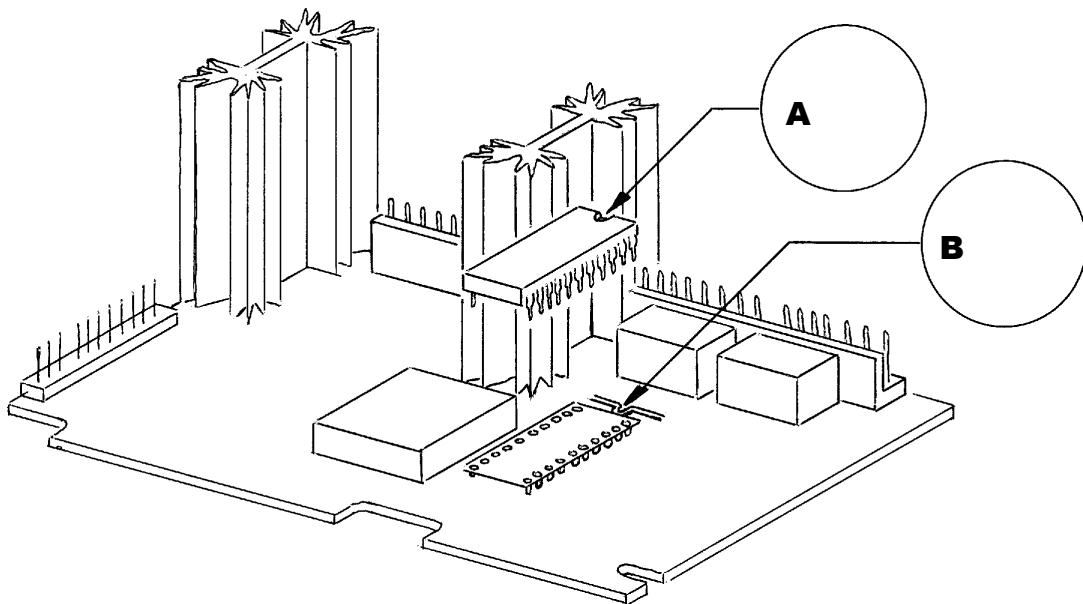

FIGURE 5
2. Locate the small notch at one end of the EPROM in Figure 5, A. Make sure it is lined up with the notch of the socket outline at U1 on the circuit board, as shown in Figure 5, B. Also make sure that all the pins are started into the socket. Then press the EPROM firmly into the socket.
3. Inspect all 28 pins to be sure they are seated properly. Note that a pin can become bent under the EPROM and may appear as though it is correctly installed in the socket. If all the pins were not properly seated in the socket, remove the EPROM, straighten the pins with needle-nose pliers, and try again. Remember that the notched end must be as shown in Figure 5.